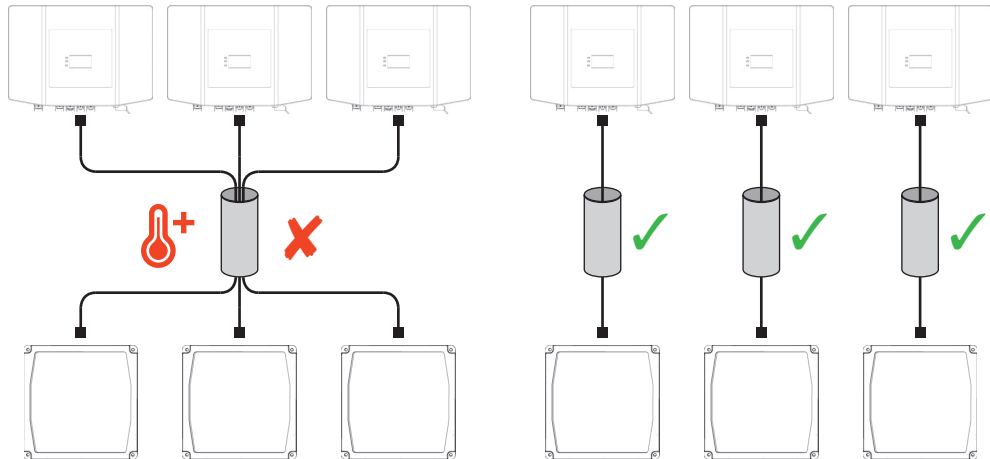

Fig. 24: Separate laying of power cables
- Multiple power cables should be laid separately due to heat generation. Fig. 24